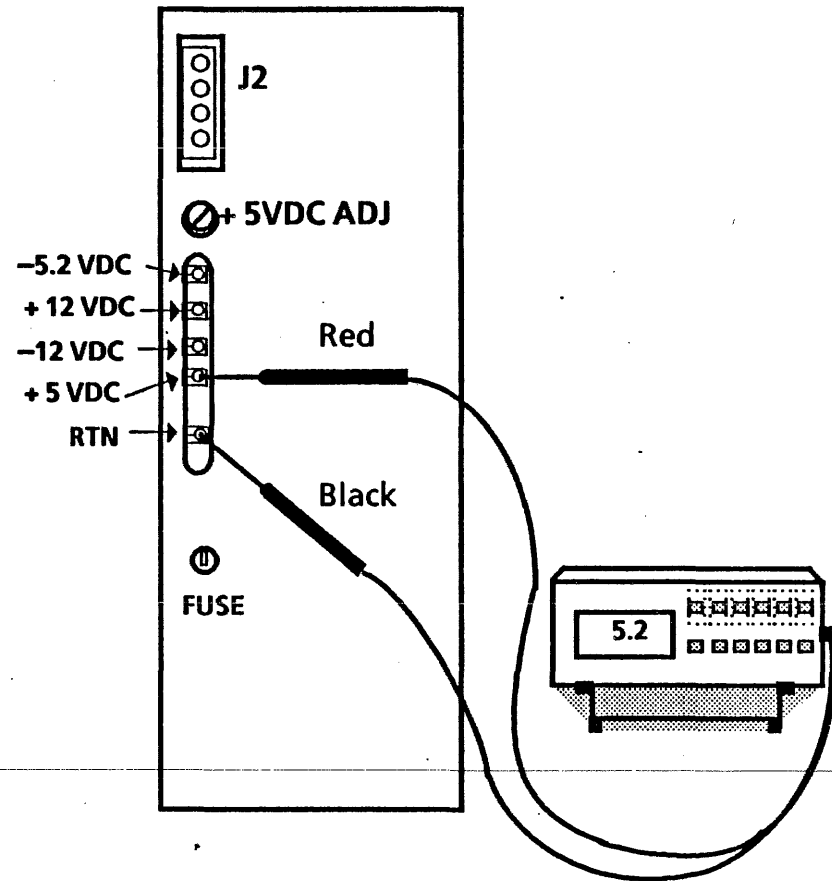

Figure 2-2 DC Voltages Check
3. Check the DC voltages as shown in Figure 2-2 for the following specifications:
- c. Reach in through the Rigid Disk Drive cavity and connect the meter leads to the Fan Assembly connector as shown in Figure 2-2.